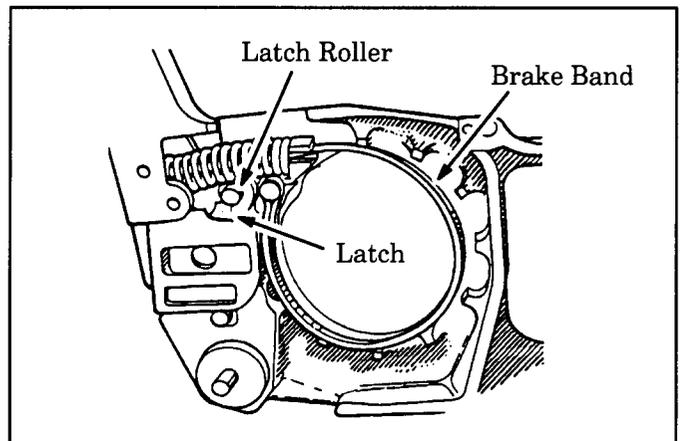

Figure 44
2. **Clean entire mechanism thoroughly** and apply a good quality lubricating grease to the latch and latch roller every 10 tanks of fuel or every 5 hours of operation, whichever is less. *Do not allow oil or grease to get on band or drum.* Figure 44 .